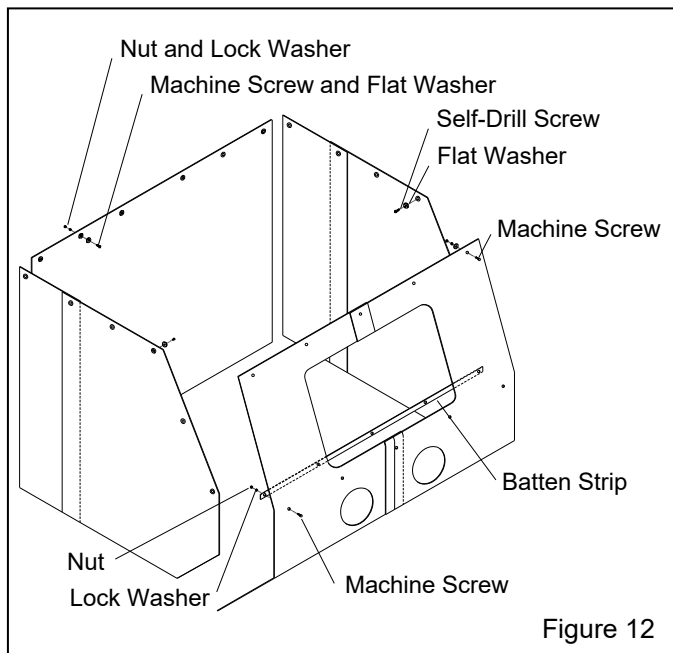

Figure 12
**3.2 Cabinet Curtains Installation – Figure 12**
For the front walls, place the batten strip over the curtains and clamp it in position on the front slope above the break, as shown in Figure 12. Match drill .187" (3/16") diameter holes through the rubber and cabinet front at each batten hole. To install the batten, insert #10-24 x 1" round-head machine screws through the cabinet front, curtain, and batten. Install lock washers and nuts from inside the cabinet and tighten securely.